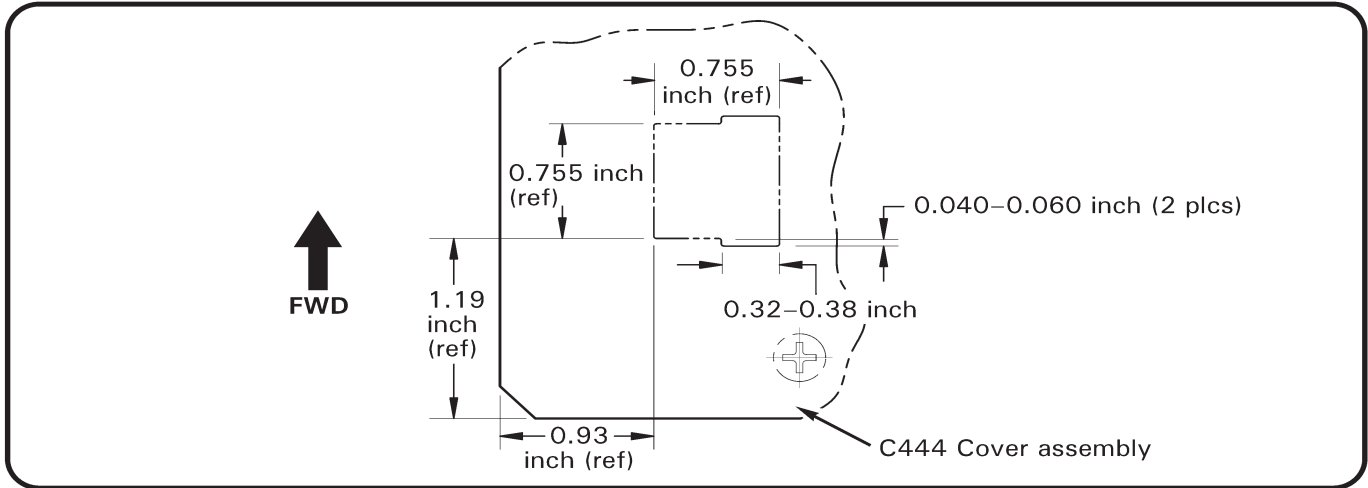

FIGURE 1
5. Refer to Figures 1 & 2. If required, create or modify remote switch hole in C444 cyclic box cover per Figure 1. Clean up debris.